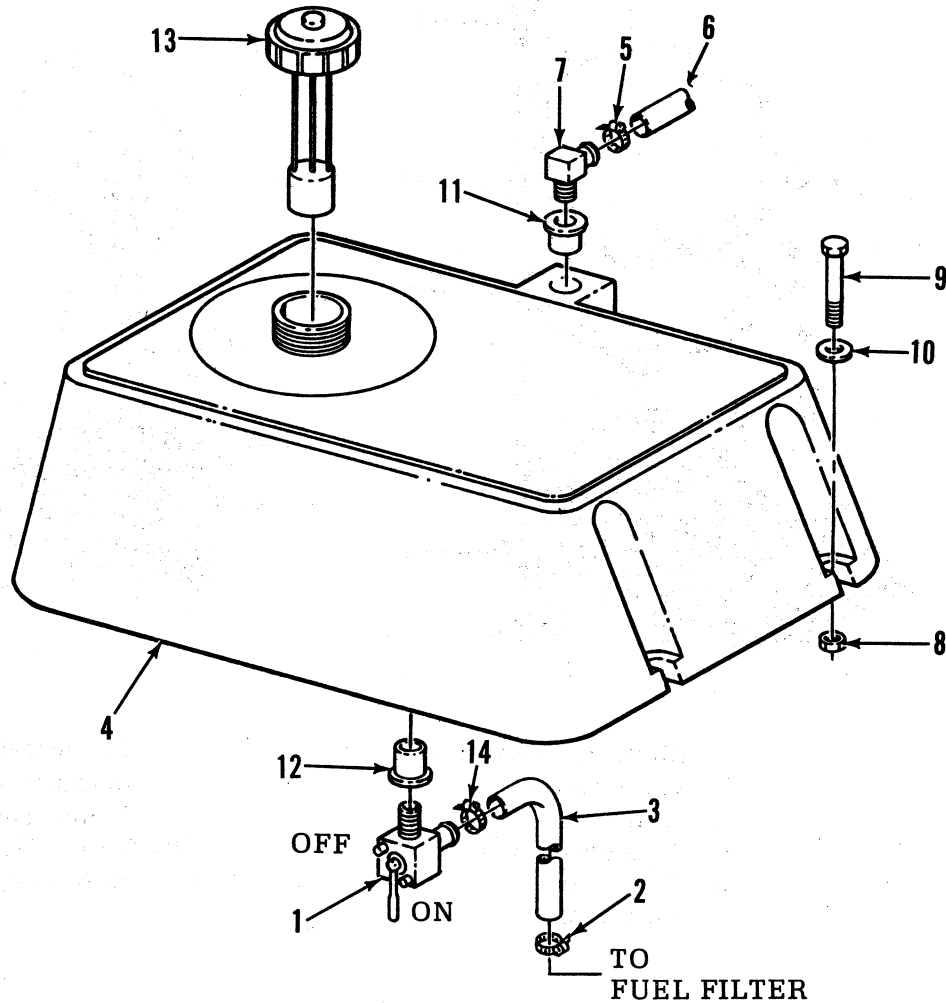

Figure 6-5. Fuel Tank Replacement
- (1) Be certain the fuel valve (1, Figure 6-5) is closed then loosen clamp (2) and disconnect fuel hose (3) from the fuel filter.
- (2) Provide a suitable container for fuel then drain fuel tank (4) by opening fuel valve (1).
- (3) Loosen clamp (5) and disconnect fuel hose (6) from elbow (7).
- (4) Once fuel is drained, close fuel valve (1). Remove the four lock-